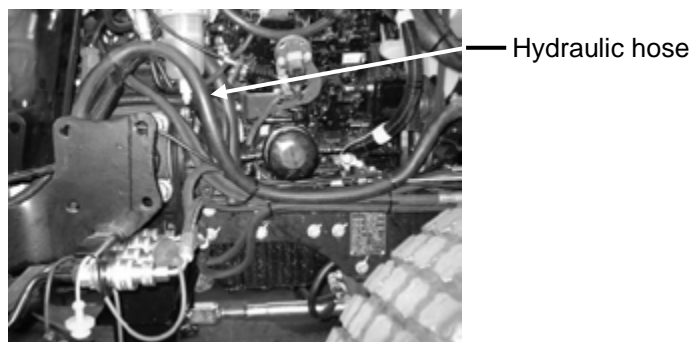

Fig 10: Install the hydraulic hoses, right side
9. Route the hydraulic hoses for the left cylinder directly through and behind the engine (see Fig 10 and 11).